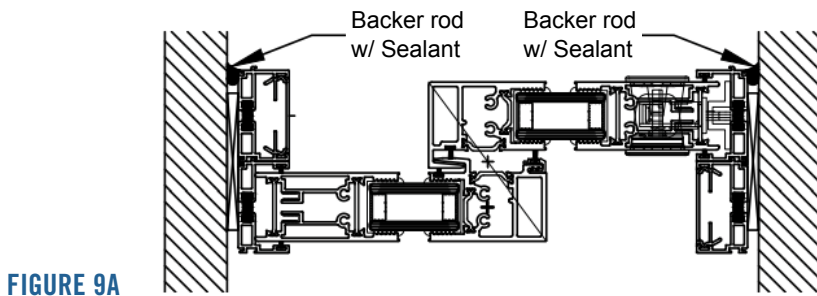

FIGURE 9A
13. Apply backer rod and compatible sealant to the interior joint between the frame and the rough opening as shown in Figures 9a and 9b.